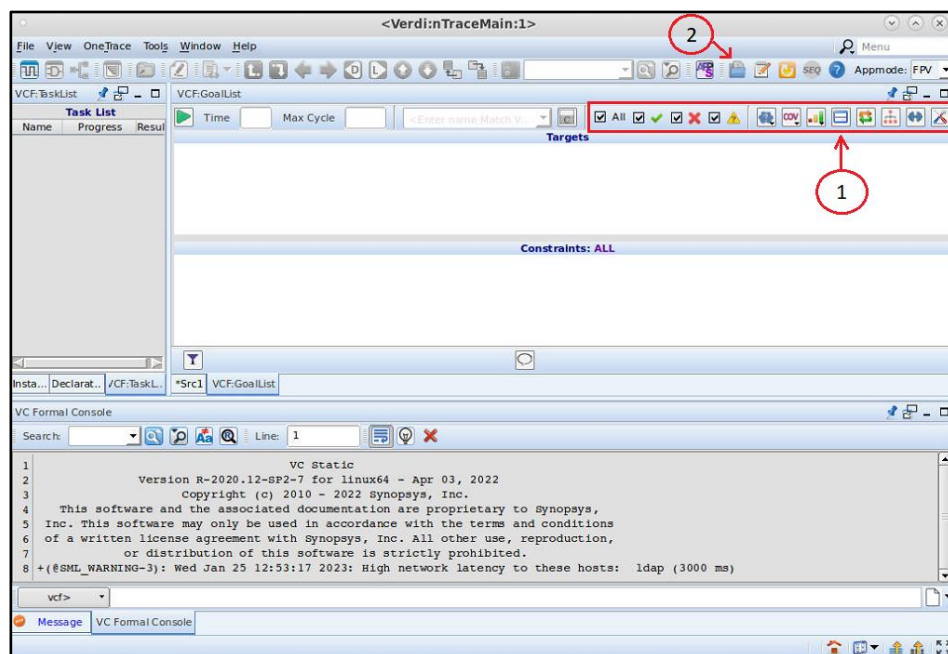

Figure 6. VC Formal GUI introductory screen.
You should then see the VC Formal GUI as shown in Figure 6 below. You can toggle between showing Targets, Constraints, or both Targets and Constraints window by clicking the blue box icon in the upper right-hand of the application (1).
Then load a TCL script by clicking on the  icon **(2)** as shown in *Figure 6*.